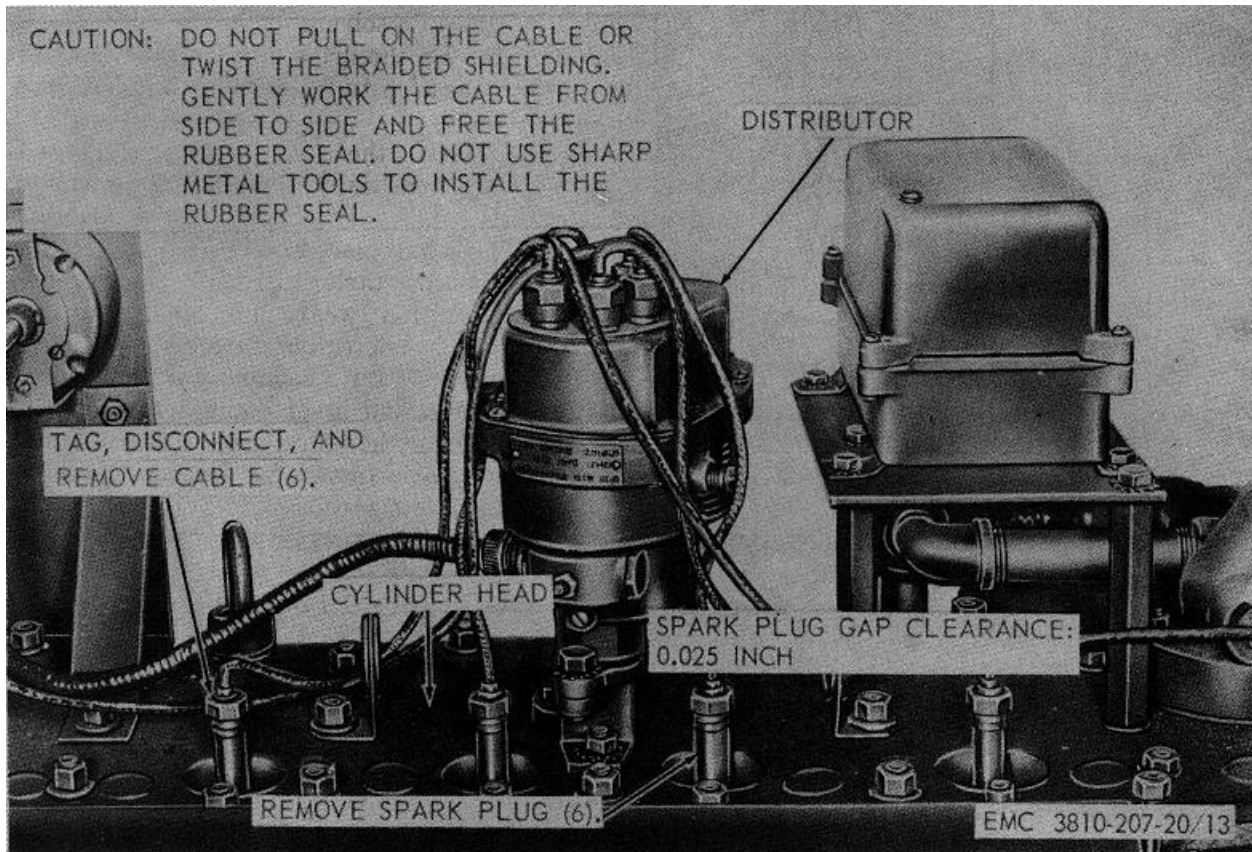

Figure 13. Spark plugs and cables, removal and installation.
- (1) Remove all dirt and foreign matter from the cylinder head around the spark plug openings.
- (2) Remove the cables and spark plugs as instructed on figure 13.
e. *Installation.* Install the spark plugs and cables as illustrated on figure 13.